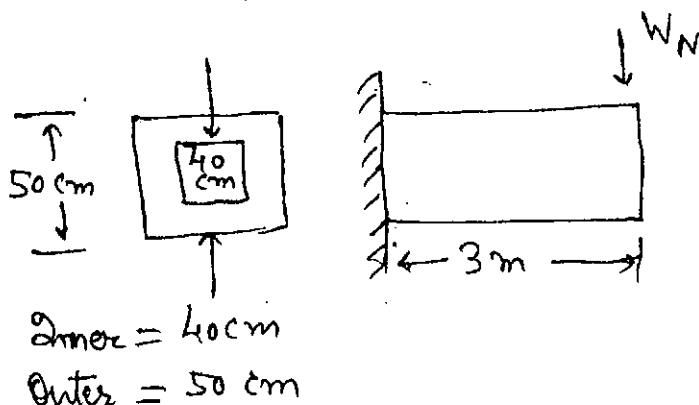

Fig. 8
- (b) A steel beam of hollow square section with outer side 50 cm and inner side 40 cm is fixed as a cantilever with a length of 3 metres as shown in fig. 8. How much concentrated load can be